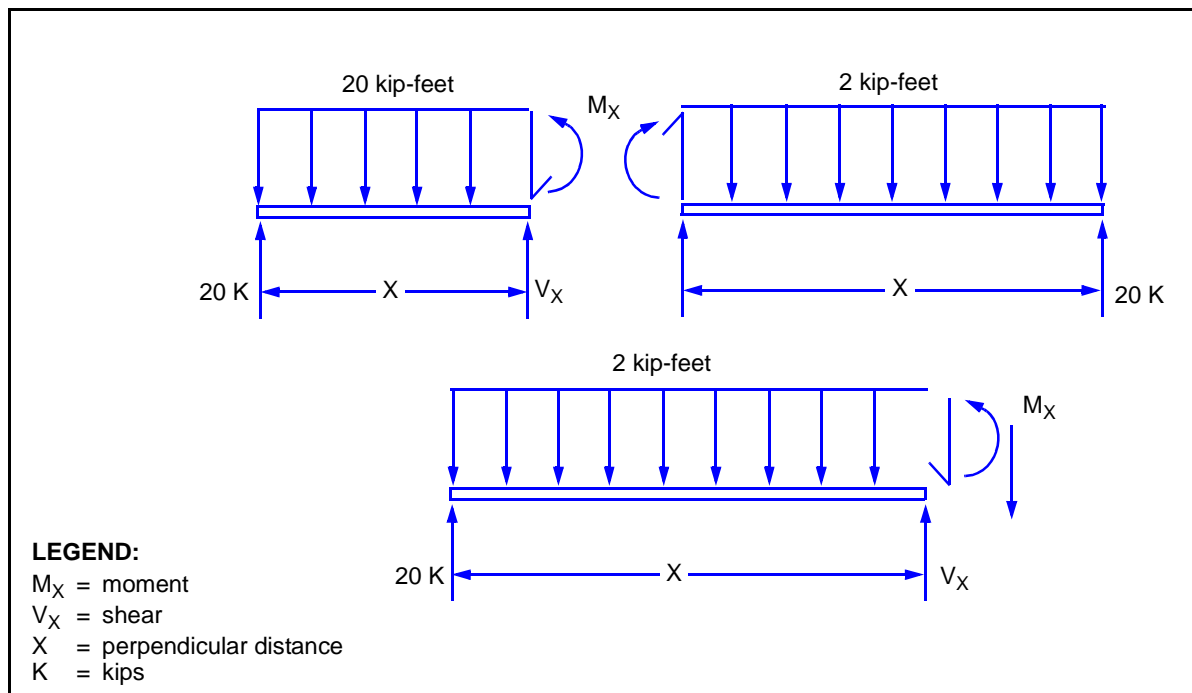

Figure E-17. Sum Forces to Left of the Cut
- To compute the internal shear of the beam, start at the far left and sum all of the vertical forces to the point of interest (Figure E-17) as follows: